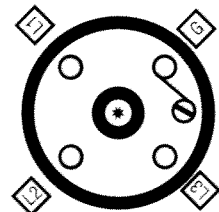

Figure 9
- Individual terminal blocks with 1/4-20 threaded stud type terminals are provided for each circuit to permit quick positive attachment of circuit wiring conductors (one terminal block per circuit). (Figure 9)